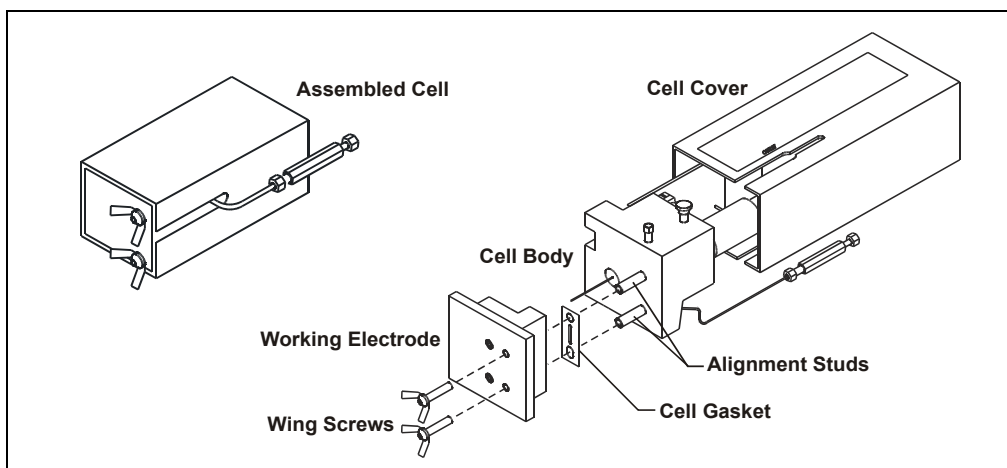

Figure B-3. Amperometry Cell Components
1. Remove the wing screws (P/N 045937) from the assembled cell and remove the working electrode (see Figure B-3). Inspect the cell gasket; if it is scratched or damaged, replace the gasket (P/N 045972).